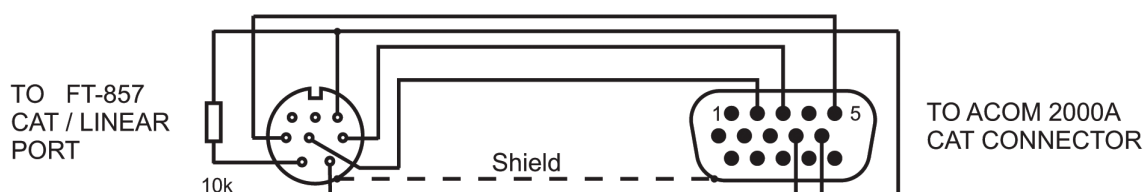

Fig. 7-9 CAT Connection to YAESU FT-897
- **YAESU FT-817, FT-857 and FT-897** The cable is shown in Fig. 7-9. The connector at the transceiver side is a Mini 8 pin DIN. Except of the serial interface wires amplifier control lines also present in the same connector. This makes possible using of a single cable between the transceiver and ACOM2000A as shown on Fig. 7-9. The connector at the transceiver side is a Mini 8 pin DIN. You will also need a 5 wire shielded cable and a 10k pull-up resistor. In case of using this cable, you should not connect separate cables to the KEY-IN and KEY-OUT sockets described in s.2-4 d,e.